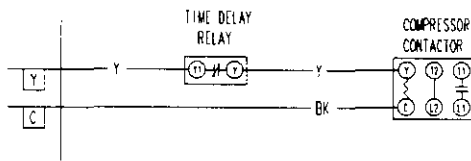

Figure 9 — Installation Instructions for CMA-5 Compressor Time Delay Relay
- Step 2.** Disconnect yellow low voltage (Y) wire at the compressor contactor coil and reconnect to the Y1 or #3 terminal of the TDR.
- Step 3.** Connect yellow wire from terminal (Y) of the TDR to the (Y) terminal of the compressor contactor coil. This is the terminal that the wire was removed from in Step 2.
- Step 4.** Recheck wiring. Refer to Figure 9. Energize unit. Compressor should start. Remove power and reapply. Compressor should not start until the 5 minute time delay has expired.